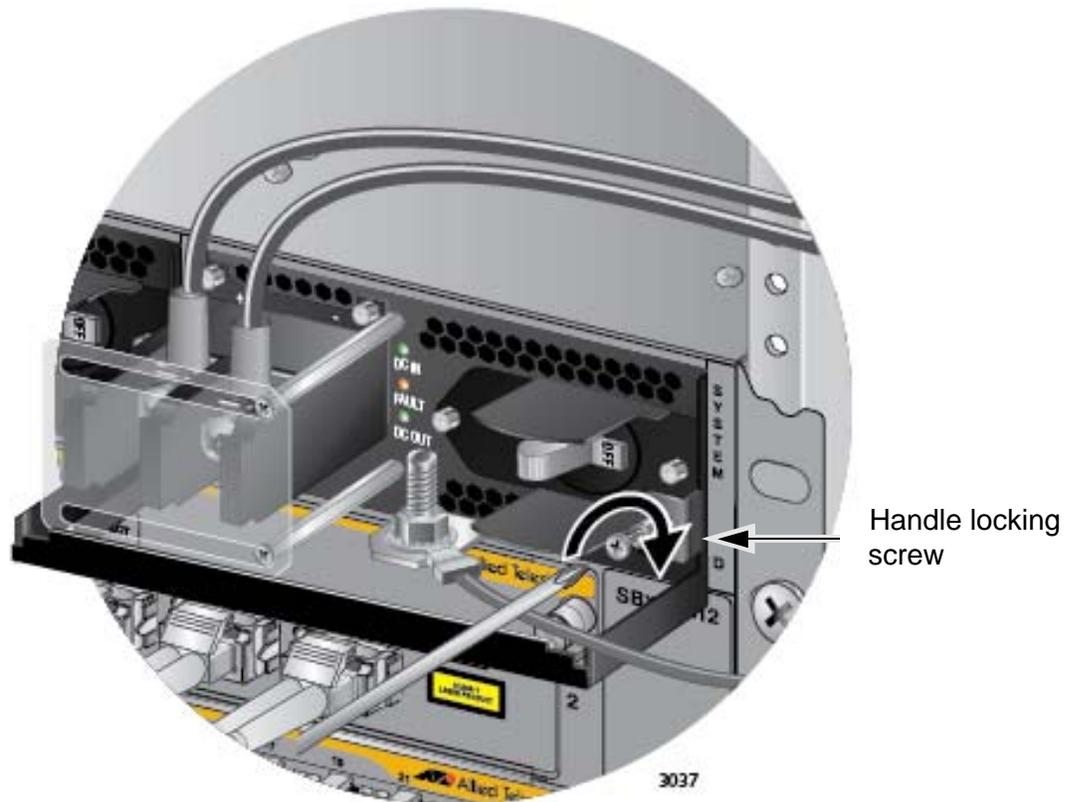

Figure 129. Tightening the Handle Locking Screw
9. With a #2 Phillips-head screwdriver, tighten the handle locking screw to secure the power supply to the chassis. See Figure 129 on page 197.
7. With a #2 Phillips-head screwdriver, tighten the handle locking screw to secure the power supply to the chassis. See Figure 129 on page 197.